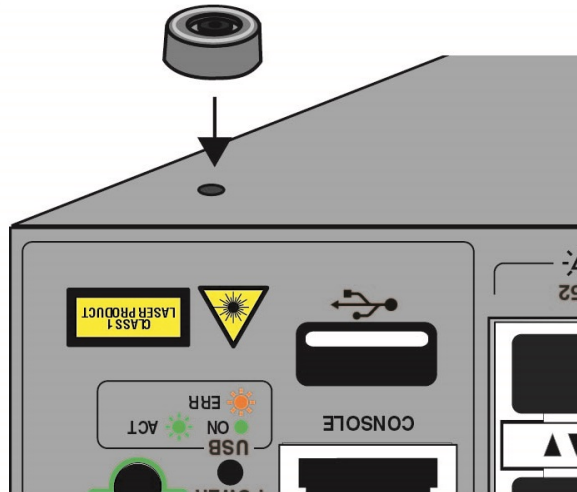

Figure 82. Placing the Bumper Foot on a Base Corner Hole
- Place the bumper foot onto one of the holes in the base of the switch. Refer to Figure 82.